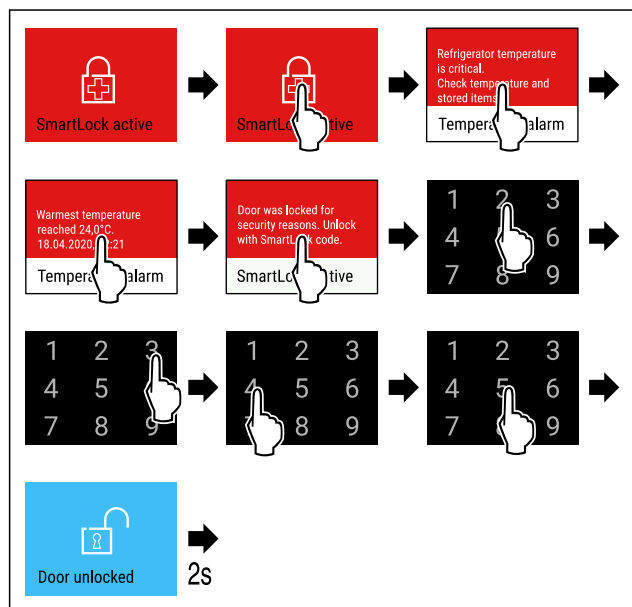

Fig. 86
- ▶ Complete steps (see Fig. 86).